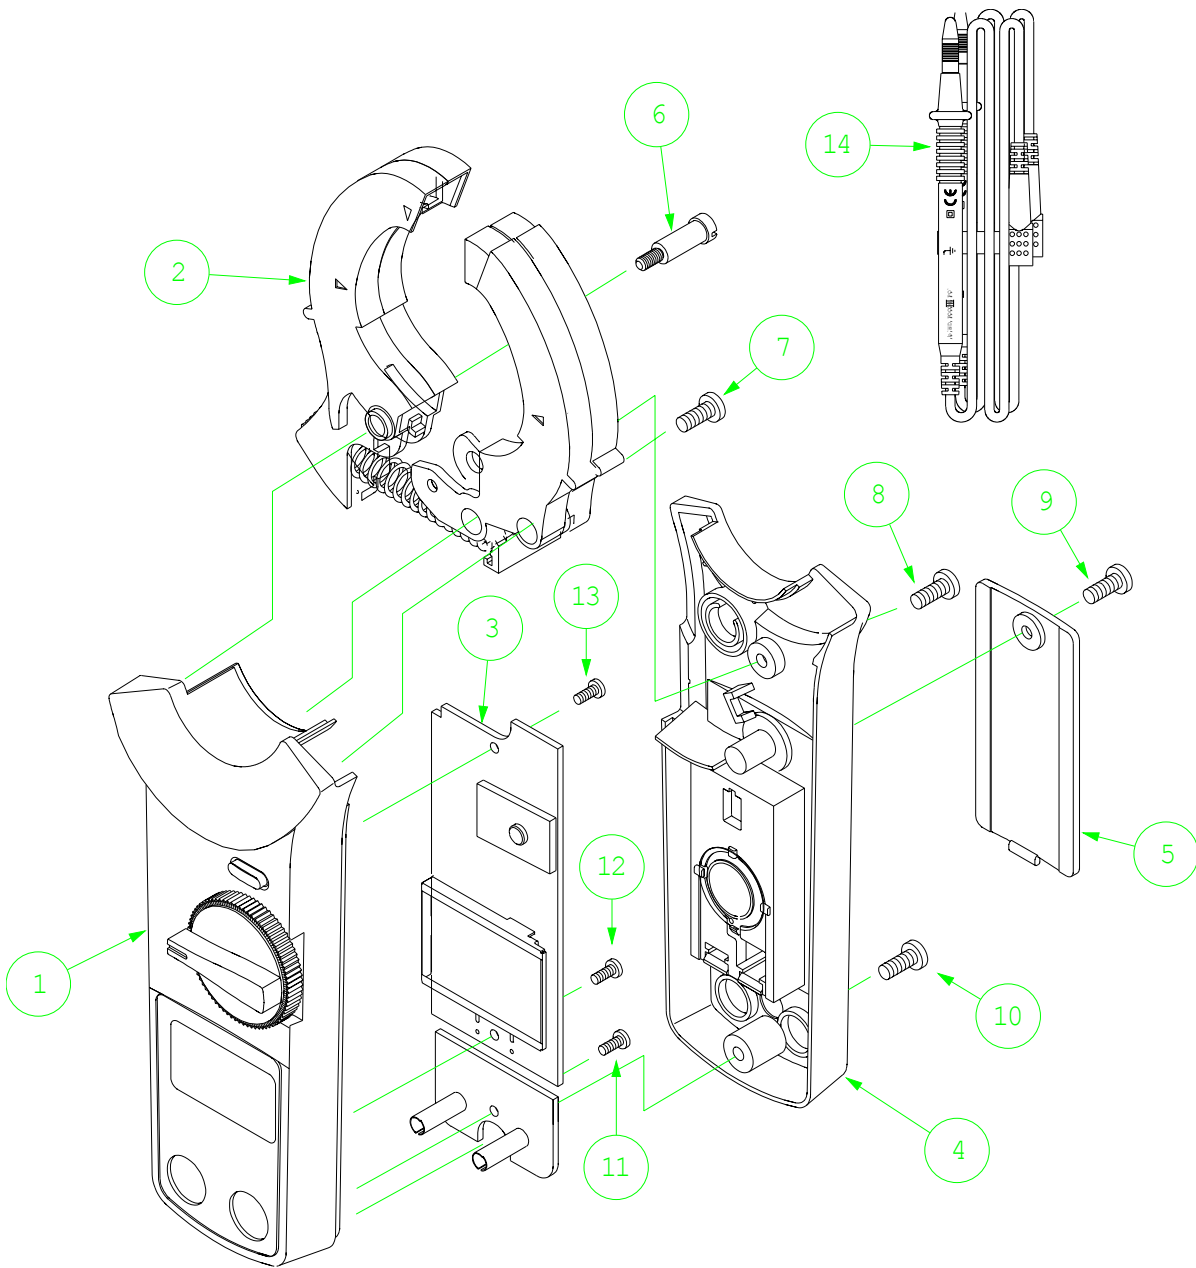

Figure 2
3. Remove screws #8 and #10 holding the bottom case cover (refer Figure 2).
Battery Replacement (refer to Figure 2)